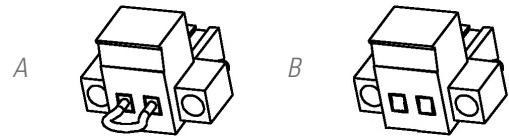

Fig. 19. Connector for the external EPO.
- Or by removing the own female connector from the equipment, because this connector includes a cable as a bridge mode, which closes the electrical circuit [see Fig. 19-A].
- Or when pressing the external button, which belongs to the end-user and it is installed between the terminals of the connector [see Fig. 19-B]. The connection of the button will be normally closed -NC-, so it will open the electrical circuit when pressing it.